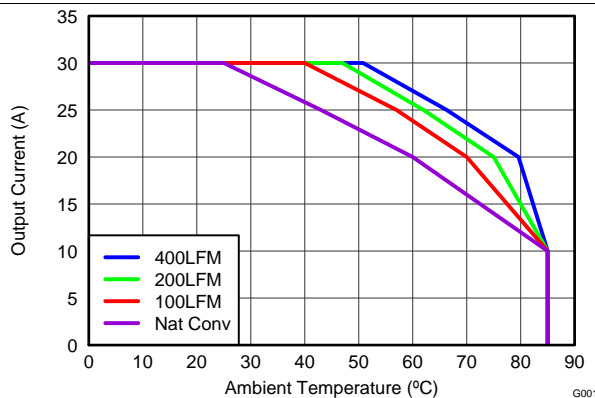

Figure 3. Safe Operating Area – PCB Horizontal Mount
$T_J = 125^{\circ}\text{C}$ , unless stated otherwise. For Figure 3 and Figure 4, the Typical Power Block System Characteristic curves are based on measurements made on a PCB design with dimensions of 4.0 inches (W)  $\times$  3.5 inches (L)  $\times$  0.062 inch (H) and 6 copper layers of 1 oz. copper thickness. See Application and Implementation for detailed explanation.
$T_J = 125^\circ\text{C}$ , unless stated otherwise. For Figure 3 and Figure 4, the Typical Power Block System Characteristic curves are based on measurements made on a PCB design with dimensions of 4.0 inches (W)  $\times$  3.5 inches (L)  $\times$  0.062 inch (H) and 6 copper layers of 1 oz. copper thickness. See Application and Implementation for detailed explanation.
The SOA curves in the CSD87384M data sheet provide guidance on the temperature boundaries within an operating system by incorporating the thermal resistance and system power loss. Figure 3 to Figure 4 outline the temperature and airflow conditions required for a given load current. The area under the curve dictates the safe operating area. All the curves are based on measurements made on a PCB design with dimensions of 4 inches (W) × 3.5 inches (L) × 0.062 inch (T) and 6 copper layers of 1 oz. copper thickness.